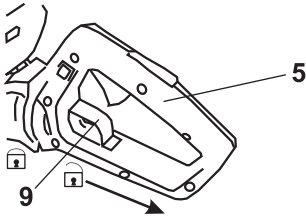

Fig. 2
1. Pull the unlock lever (9) backward and hold it in position (Fig. 2).